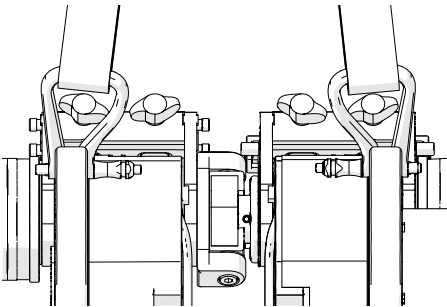

Fig. 14 - Proper shackle setup
**NOTE:** Ensure proper orientation of the shackles (Fig. 14).